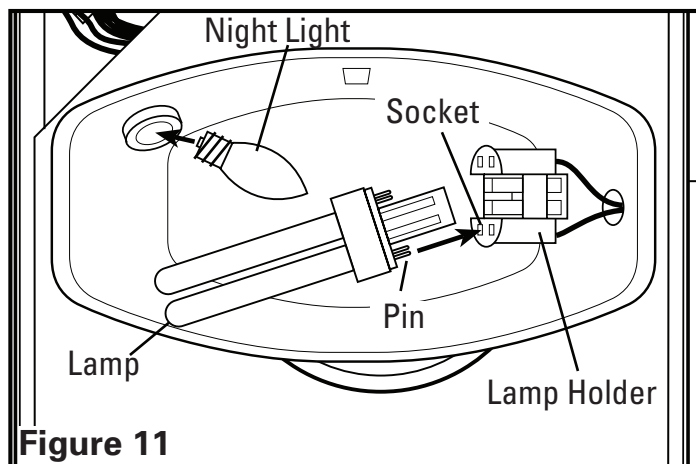

Figure 11
3. Install the included 26 watt fluorescent lamp into the lamp holder by lining up the pins on the lamp base to the socket of the lamp holder and pressing towards the lamp holder until the lamp snaps into place and is firmly seated in the lamp holder. Install a 4 watt maximum type C7 (candelabra base) night light (not included) into the side lamp holder (**Figure 11**).
- Changing the Lamp: Disconnect power to the unit. Remove grill by pulling downward on grill and squeezing grill springs together to release from housing (**Figure 11**).